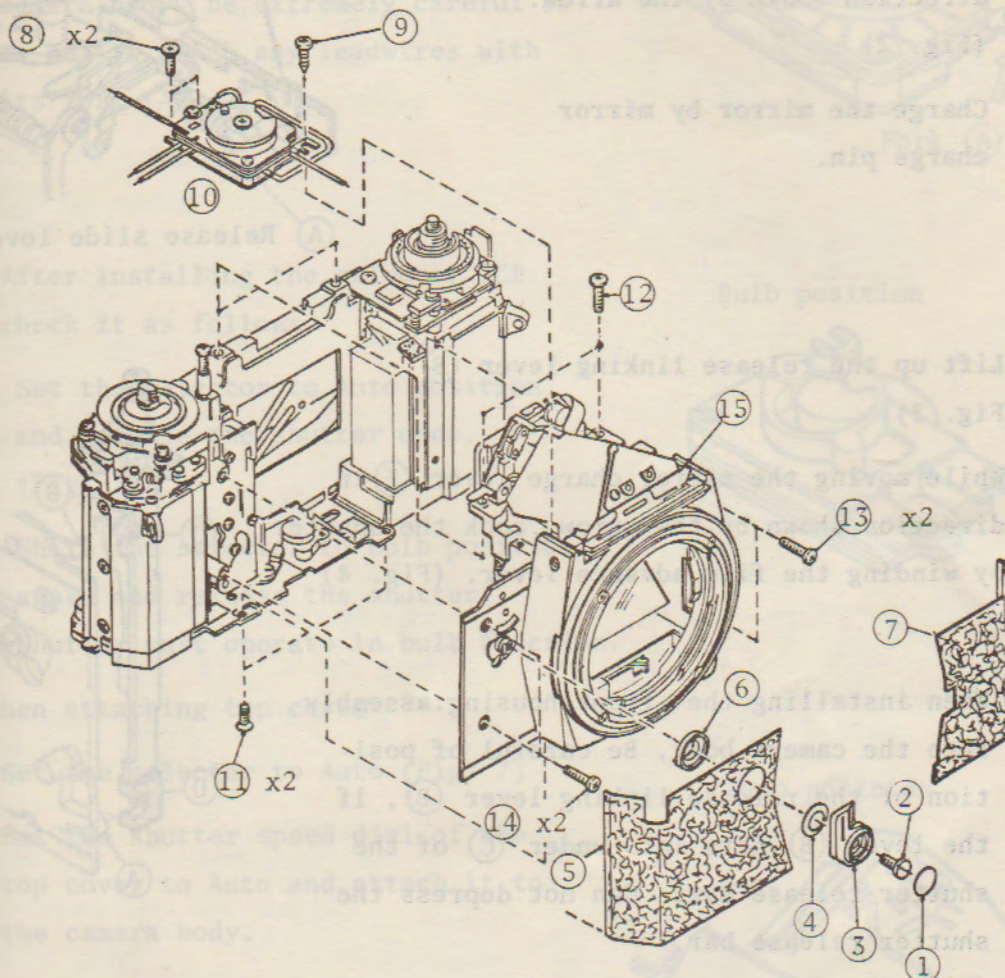

Fig.1
4. The arabic numeral in a circle as shown in Fig. 1 indicate the procedure of disassembly.